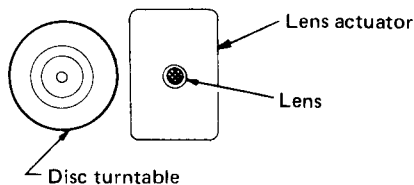

Fig. 18
1. Checking the object lens (Fig. 18)